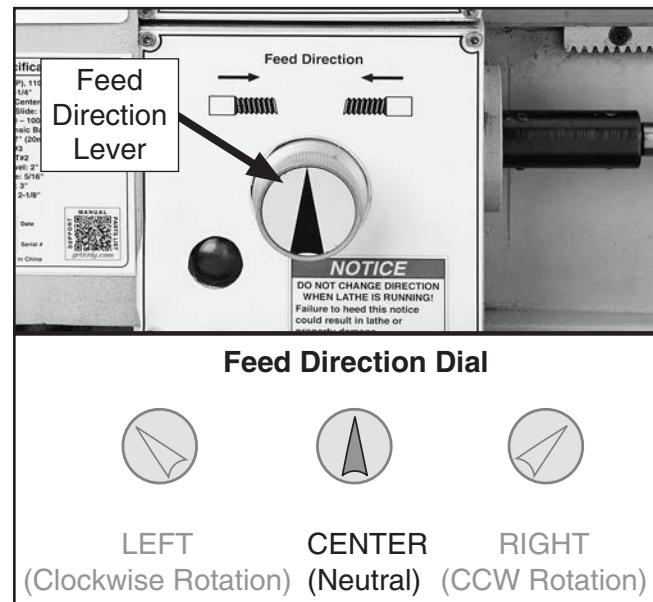

Figure 20. Neutral feed direction dial setting.
4. Shift feed direction dial to neutral (see **Figure 20**).